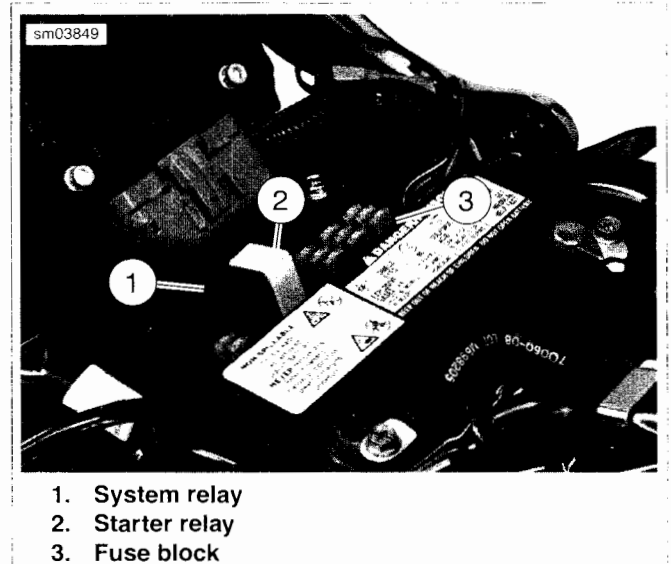

Figure 7-14. Fuse Block
4. See Figure 7-14. Replace suspect relay (1) or (2).